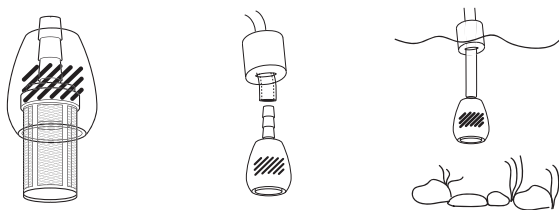

Figure 1-2
The modular prefilter (Figure 1-2) is effective in still and running water. It consists of two components: a strainer and a weight. The prefilter is important because it prevents large particles (larger than 130 microns) from entering the water system. See Field Performance Tips for helpful hints.
3. Prefilter: Rinse the prefilter in water to remove any particles that may be caught in the strainer. For a more thorough cleaning, remove the prefilter from the input hose and clean with water and a soft brush. Reassemble. Apply a small amount of silicone lubricant to the strainer barb to ease assembly. (Figure 1-2)